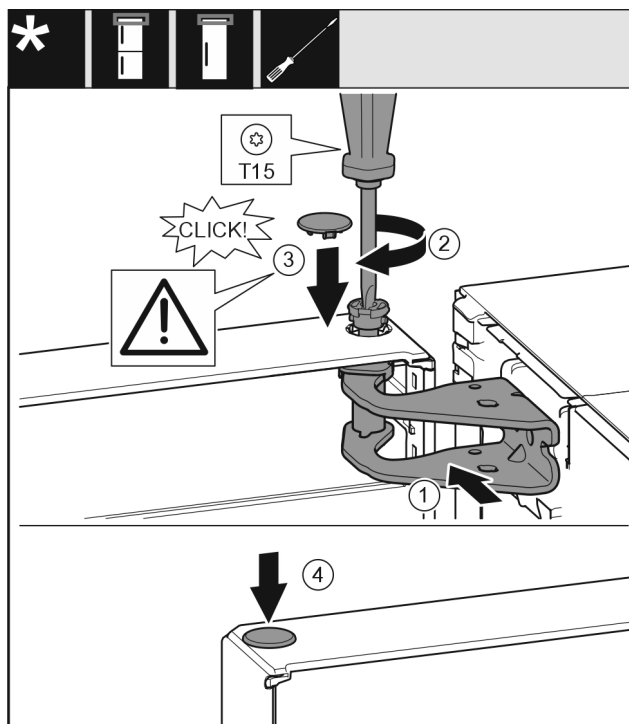

Fig. 22
- Align the top of the door with opening in the bearing bracket. Fig. 22 (1)
- Insert the bolt Fig. 22 (2) and use screwdriver to tighten it.
- Fit the safety cover Fig. 22 (3) to secure the door: Insert the safety cover and check whether the door is resting on it. Otherwise, insert the bolt fully.
- ▶ Insert the plug Fig. 22 (4).